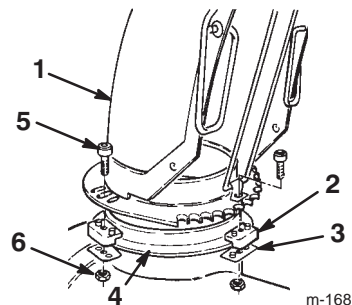

Figure 14
1. Apply a light coat of low-temperature grease to the chute ring (Fig. 14).
2. Set the discharge chute (open side forward) onto the discharge opening so that the chute retainers are on the chute ring (Fig. 14).
3. Tighten the screw and the locknut on the left side to position the chute retainer against the chute retainer plate and to secure the discharge chute to the chute ring (Fig. 14).
4. Push the other chute retainers toward the discharge chute (slotted), and tighten the screws (Fig. 14).
5. Ensure that the chute rotates freely on the chute ring. If the chute binds, move the right-hand retainer outward (Fig. 14).